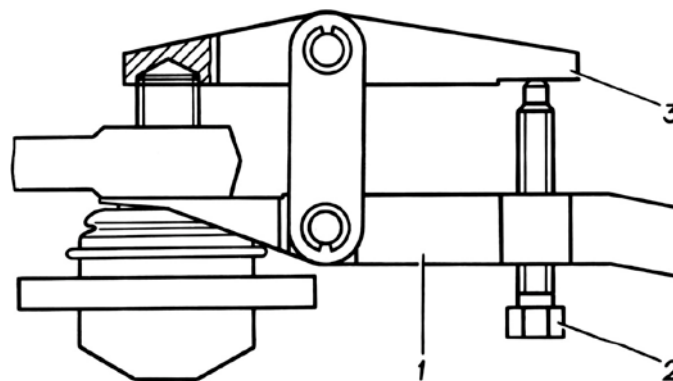

Fig. 4.14. Suspension ball pin puller: 1 and 3 - arms; 2 - bolt
- press out the pivot pin with a puller (Fig. 4.14), turning the bolt 2;
- press out the pivot pin from the strut knuckle arm conical hole with a puller (see Fig. 4.14), turning the bolt 2;
- press out the pivot pins of the tie-rod arms from the strut knuckle arm conical holes with a puller (see Fig. 4.14), turning the bolt 2;
- unscrew the nuts securing the ball pivot pins of the lower arms. Using a puller (see Fig. 4.14), press out the pivot pins from the arm conical holes;